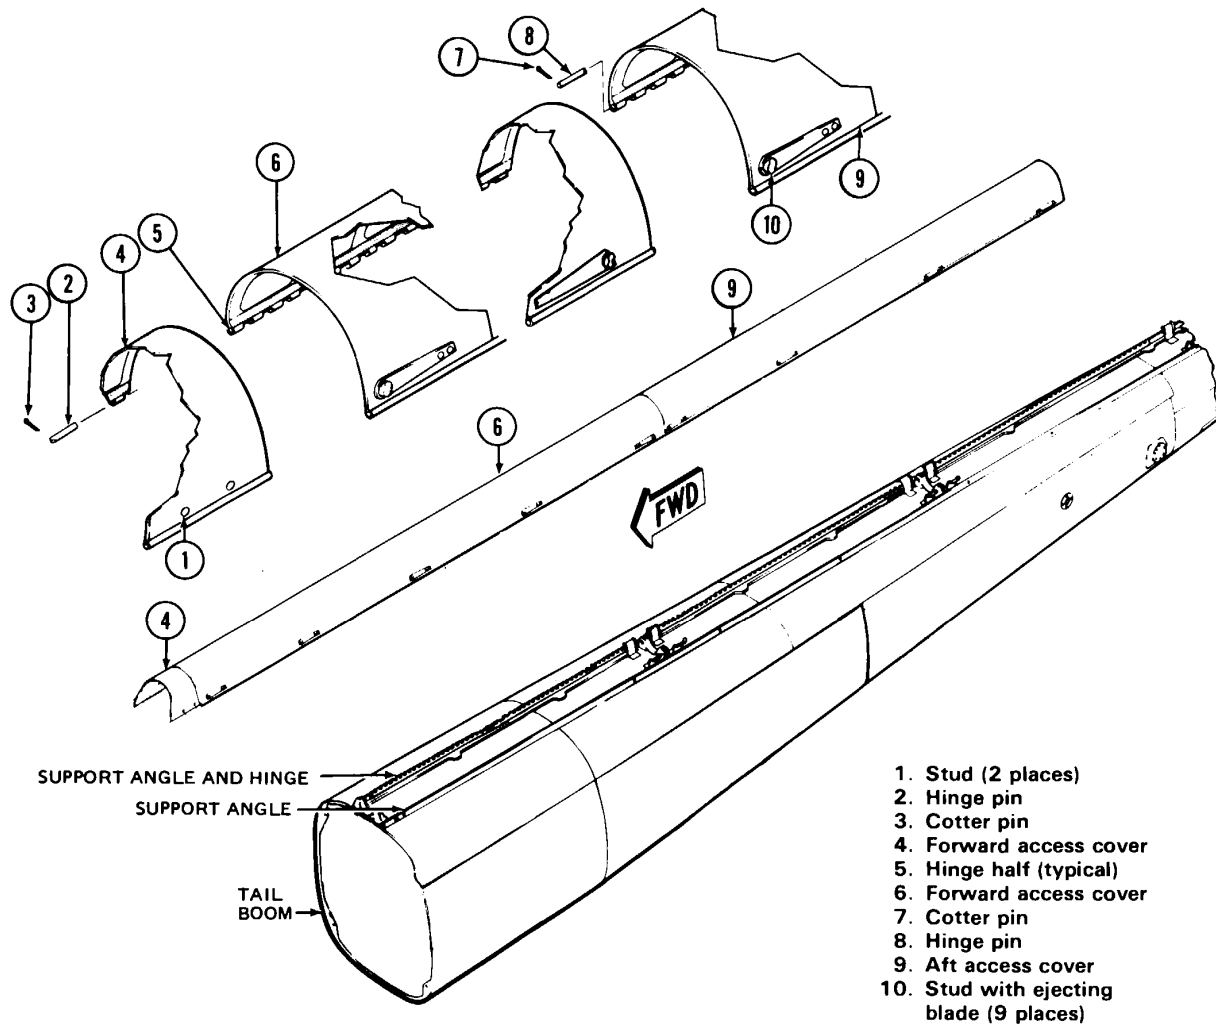

Figure 52-10. Tailboom Driveshaft Access Covers
52.6.1.1 Loosen stud (1, Figure 52-10) in two places. Hinge open cover (4).
52.6.4.1 Install aft cover (9, Figure 52-10) with hinge pin (8) and secure with cotter pin (7).